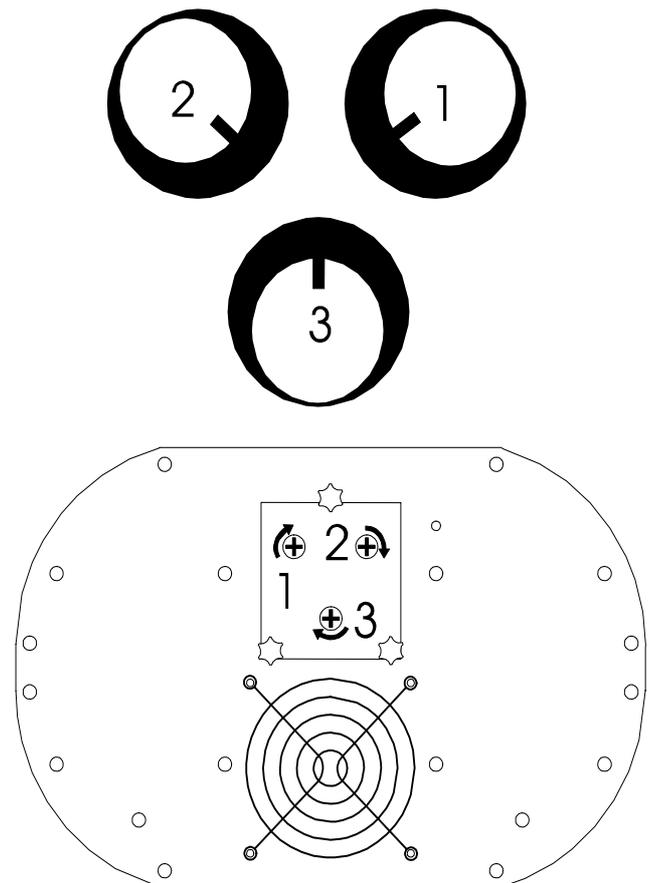

Figure 1
- If the hot-spot of the light is not centered, make adjustments by turning one or more of the screws as shown in figure 1.